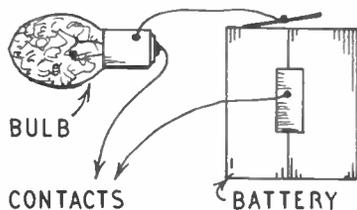

Fig. 1—Simplest firing circuit
The simplest circuit is shown in Fig. 1, and this is used in many flashguns. The battery is of the ordinary dry type used in handlamps or torches, and can be 3 V, $4\frac{1}{2}$ V or 6 V. When the circuit is
Should the camera have no flash contacts, the bulb may be fired separately. To do this, a simple push switch can be wired to the two leads in Fig. 1. The camera shutter is then set to (B) for a
Except for waiting a few seconds after inserting the bulb, this circuit is used exactly as with that in Fig. 1. The light output remains the same, as the voltage applied does not influence this.
Piece (A) and the two sides (B) are cut from $\frac{1}{4}$ in. wood and glued together. The Seal is $\frac{1}{4}$ in. thick and is pivoted on the wire which goes through the sides. The wheels are glued to axles cut from $\frac{1}{4}$ in. diameter round rod and the cam is situated on the front axle in such a position as to give movement to the Seal. Fig. 1 shows how the cam operates to give this movement.